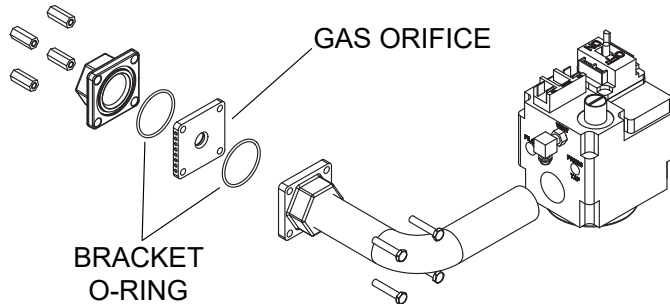

Figure 65. Orifice Location
4. Locate and remove the four (4) bolts & nuts holding the gas orifice in place. See **Figure 65**.